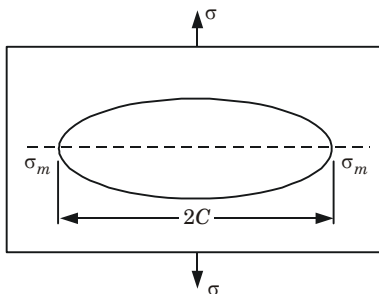

Fig. 2.10.1. Model for Griffith's fracture theory.
5. For an elliptical crack (Fig. 2.10.1), the maximum stress at the tips is given by :